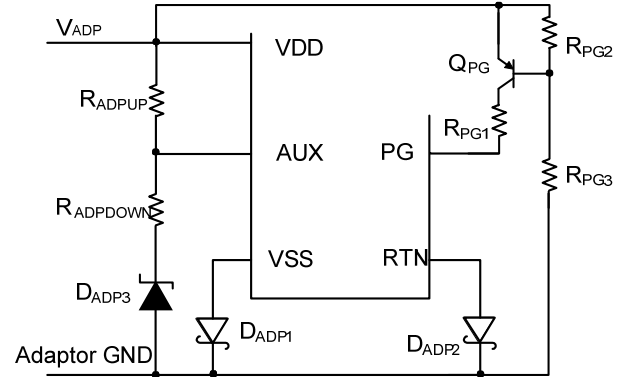

Figure 6: Wall Adaptor Detection Circuit
When an auxiliary power source, such as a wall power adapter, is used to power the device, the resistor dividers R_{ADPUP} , $R_{ADPDOWN}$, and D_{ADP3} should be chosen to satisfy Equation (1) for correct wall power adaptor detection (see Figure 6).
The MP8008L enables wall adapter detection at VDD = 11.5V. If an adapter power with a lower voltage rating (i.e.: 10V) is used to power the converter, an external PG pull-up resistor is necessary to enable the downstream DC/DC converter. Refer to Figure 6 and the following Power Good (PG) section for more detail.
If an adapter power lower than 11.5V is connected to supply the converter, the PG function is unable to work with such a low input. An external PG pull-up circuit is recommended (see Figure 6). Typically, Q_{PG} needs a V_{CE} voltage higher than 100V (i.e.: BSS63LT1). Choose $R_{PG2} = 7.5k\Omega$ and $R_{PG3} = 100k\Omega$ for a 12V adapter with some margin of adapter regulation. Choose $R_{PG1} = 100k\Omega$ to limit the PG sink current below 0.6mA when VDD is high.